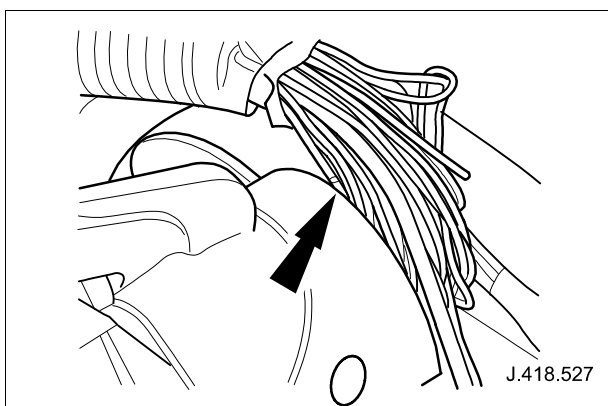

Fig. 14
- 4.2 Check for chafing of the engine harness on the injector pressure sensor bracket, as shown in Fig. 14.